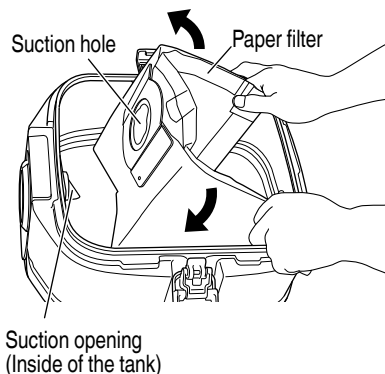

Fig. 27
- (1) Open the paper filter horizontally so that the suction hole in the paper filter is over the top of the tank. (Fig. 27)